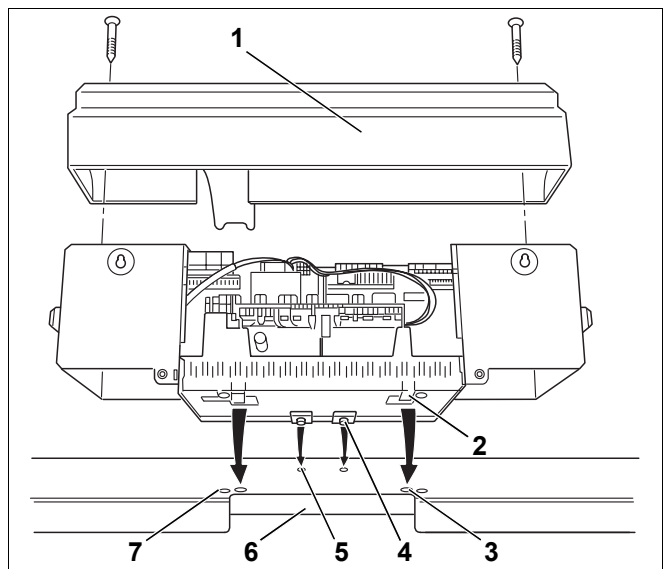
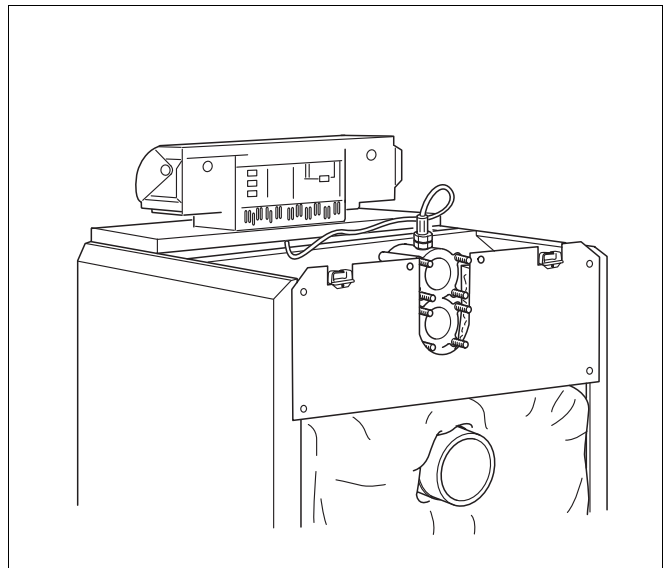

Fig. 43 Control unit installation
Fig. 48 Boiler with control unit installed
Fig. 43 shows the control unit and the front cover as viewed from the rear.
- Loosen both screws (Fig. 43, **Item 1**) securing the terminal cover. Remove the terminal cover by pulling it upwards.
- Mount the control unit. Insert the control unit at the front of the boiler with the locating tabs (Fig. 43, **Item 4**) into the oval apertures of the front boiler hood (Fig. 43, **Item 5**). Pull the control unit forward and then pivot it back. Ensure that the resilient hooks (Fig. 43, **Item 2**) engage at the rear into the rectangular apertures of the front boiler hood (Fig. 43, **Item 3**).
- Secure the control unit base on the r.h. and l.h. side of the cable way (Fig. 43, **Item 6**) in the front boiler hood with two self-tapping screws (Fig. 43, **Item 7**).
- Fit the terminal cover (Fig. 43, **Item 1**) with two self-tapping screws and secure on the control unit base (Fig. 48).